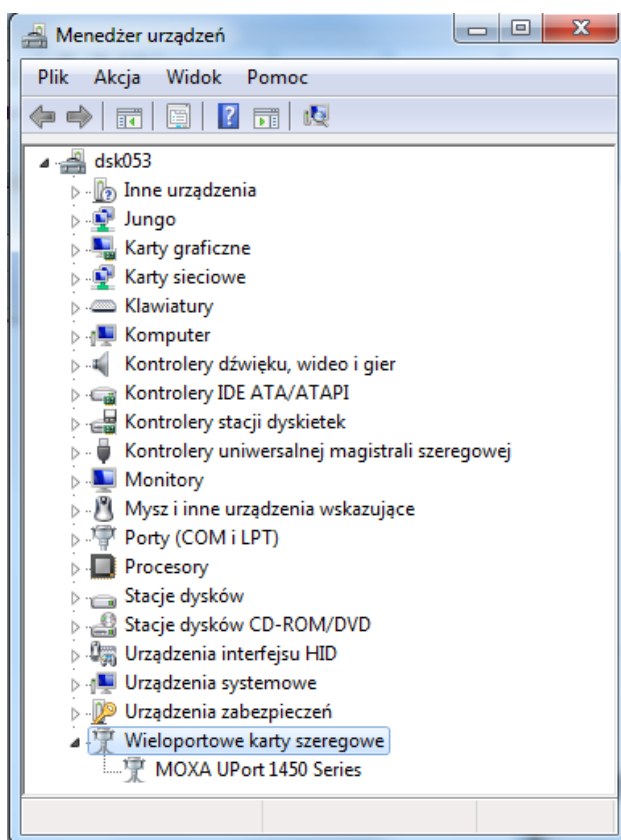

Fig. 2 Device Manager
- In the properties window go to *MOXA Port Configuration* tab (Fig. 2). Then from the list of available ports, select the port which it is SMCD10 driver connected to and set the following parameters: